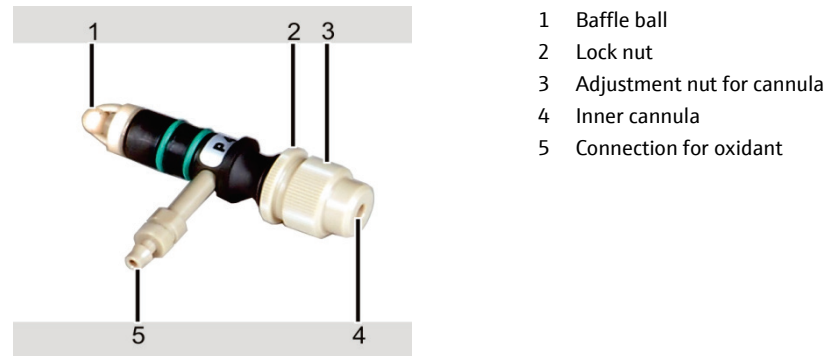

Fig. 64 Components of the nebulizer
- Loosen the lock nut (item 2 in Fig. 64).
- Use the adjustment nut to adjust the depth of the cannula (item 3 in Fig. 64).
9. After completing the adjustment, secure the adjustment with lock nut (item 2 in Fig. 64).